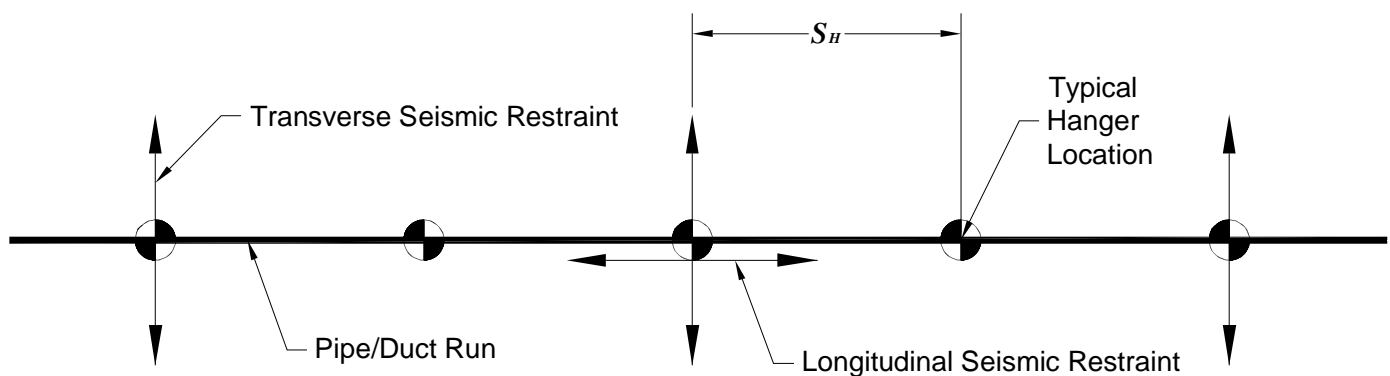

Figure I1-1; Definition of Transverse and Longitudinal Seismic Restraints
1. Transverse Seismic Restraints: These act to keep the pipe or duct from swinging side-to-side. They are normally placed so that they act perpendicular, at right angles, to the pipe or duct, as shown in Figure I1-1. These seismic restraints are located at, or very near, the pipe or duct hangers. If the restraints are not attached directly to the hanger, they may be attached to the pipe or duct within four (4) inches of the hanger location. This is so that any vertical reaction loads from the restraints go to the structure directly through the hanger and not the pipe or duct.
2. Longitudinal Seismic Restraints: These act to keep the pipe or duct from swinging back-and-forth along the length of the pipe or duct. Typically, they are placed parallel to, or along, the length of the pipe or duct, as shown in Figure I1-1. The seismic restraints are also located at, or very near, the hanger locations of the pipe or duct for the same reason stated above.